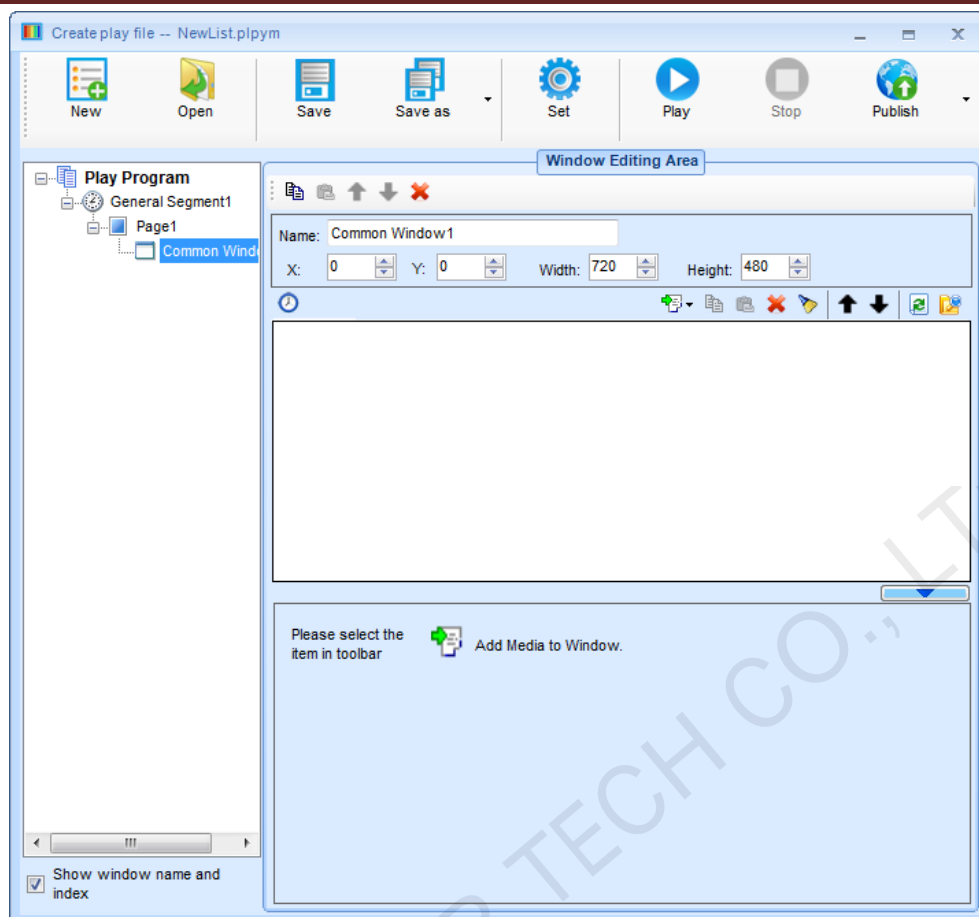

Fig. 10-6 Play-Program creating page
- 1) Click **Create Play List** in the toolbar of PlutoManager main interface to enter the Play-Program creating page shown in Fig. 10-6.
Click **New** button in Fig. 10-6 to set the play window information.